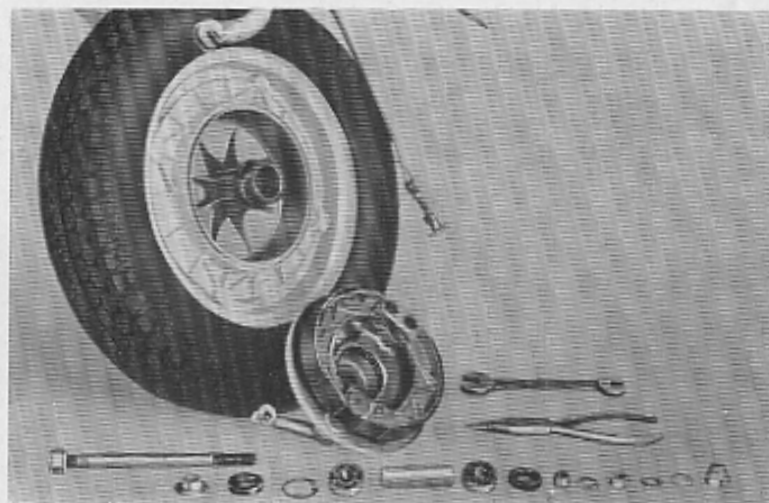

Fig. 40
the bearings with a suitable punch (Right hand bearing towards the right and left hand towards the left). See Fig. 40.
- 5 On refitting the battery to the machine great care must be taken in connecting the battery in the correct way. See lay-out at Fig. 40. **Positive pole (+)** connected to the machine circuit, **Negative pole (-)** connected to the earth screw situated on the battery support bracket on frame.